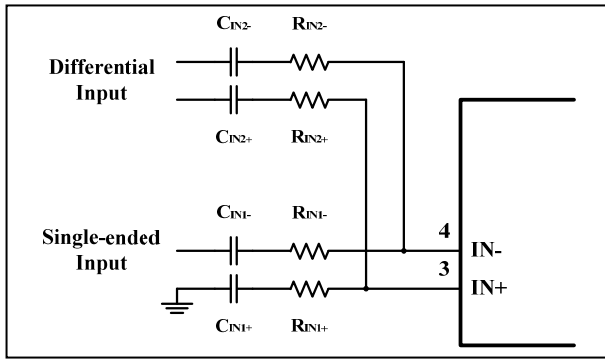

Figure 15 Application Circuit with Summing Differential Input and Single-Ended Input Signals
Figure 15 shows how to sum a differential input signal and a single-ended input signal. Ground noise may couple in through $IN-$ with this method. It is better to use differential inputs. The corner frequency of the single-ended input is set by C_{IN2} , shown in Equation (6). To assure that each input is balanced, the single-ended input must be driven by a low-impedance source even if the input is not in use. The gain for each input source can be set independently by Equations (4) and (5).